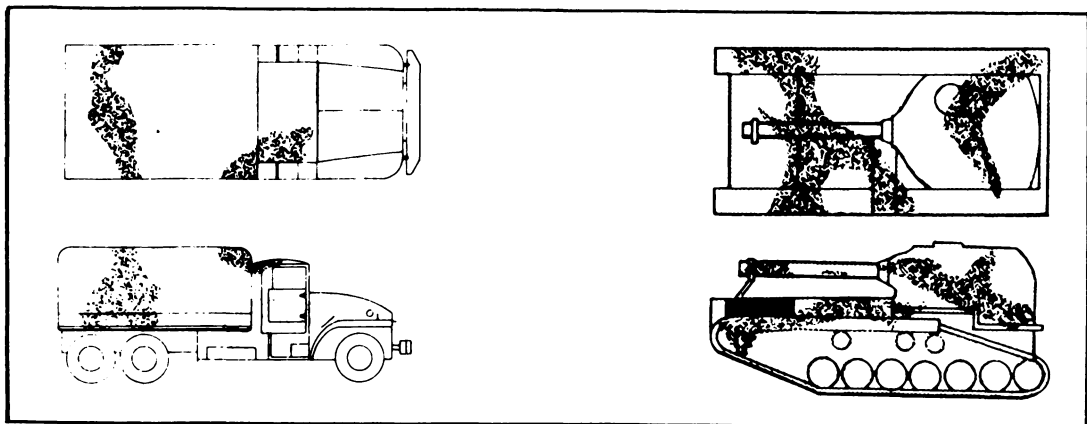

Figure 1.
1. Use pattern paint, mud, etc., to cover shiny areas of equipment in irregular patterns so the item will blend with the color of natural surroundings (fig. 1).